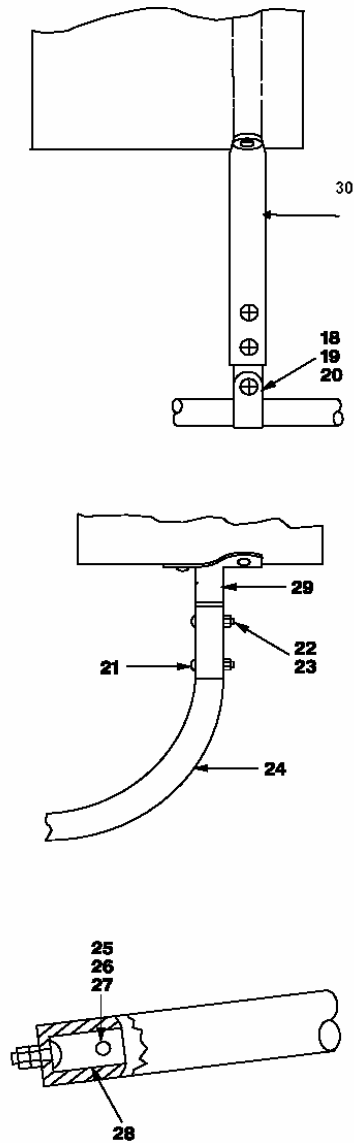

Figure 3
- (10) Remove screw (18), washer (19) and nut (20). (See Figure 3.)
- (11) Remove two screws (21), washers (22) and nut (23).
- (12) Remove HF antenna (24) from helicopter.
- (13) Remove screw (25), washer (26) and nut (27) from fitting (28) at fuselage end of antenna (24).
- (14) Remove rear support (29) and center support (30) and reinstall screws.
- (15) Remove insulator (11), access door (7), boot (5), ring (4), and clamp (2) from antenna (24).